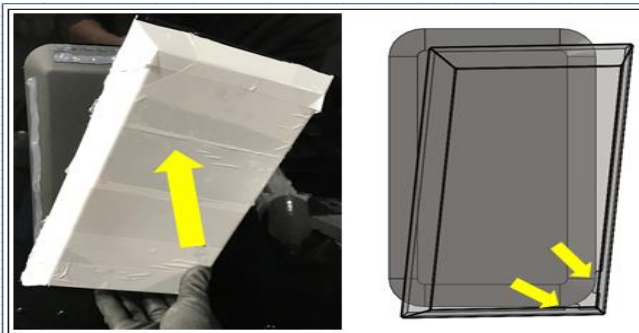

Figure 3. Set Up Position
4. Set up Position: Hook stopper area into vent cover from right bottom corner (see figure 3).